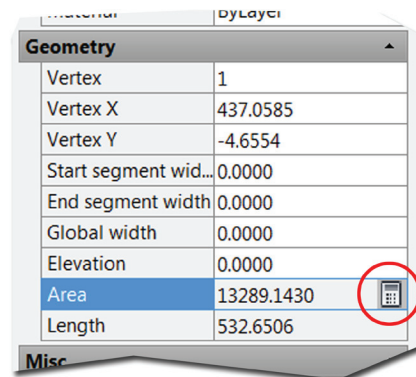

Figure 11: The calculator can be accessed through most of the property changer fields. Imagine the possibilities!
3. Beneath the Geometry heading, click in the “Area” field and AutoCAD will display a small calculator icon (see Figure 11).